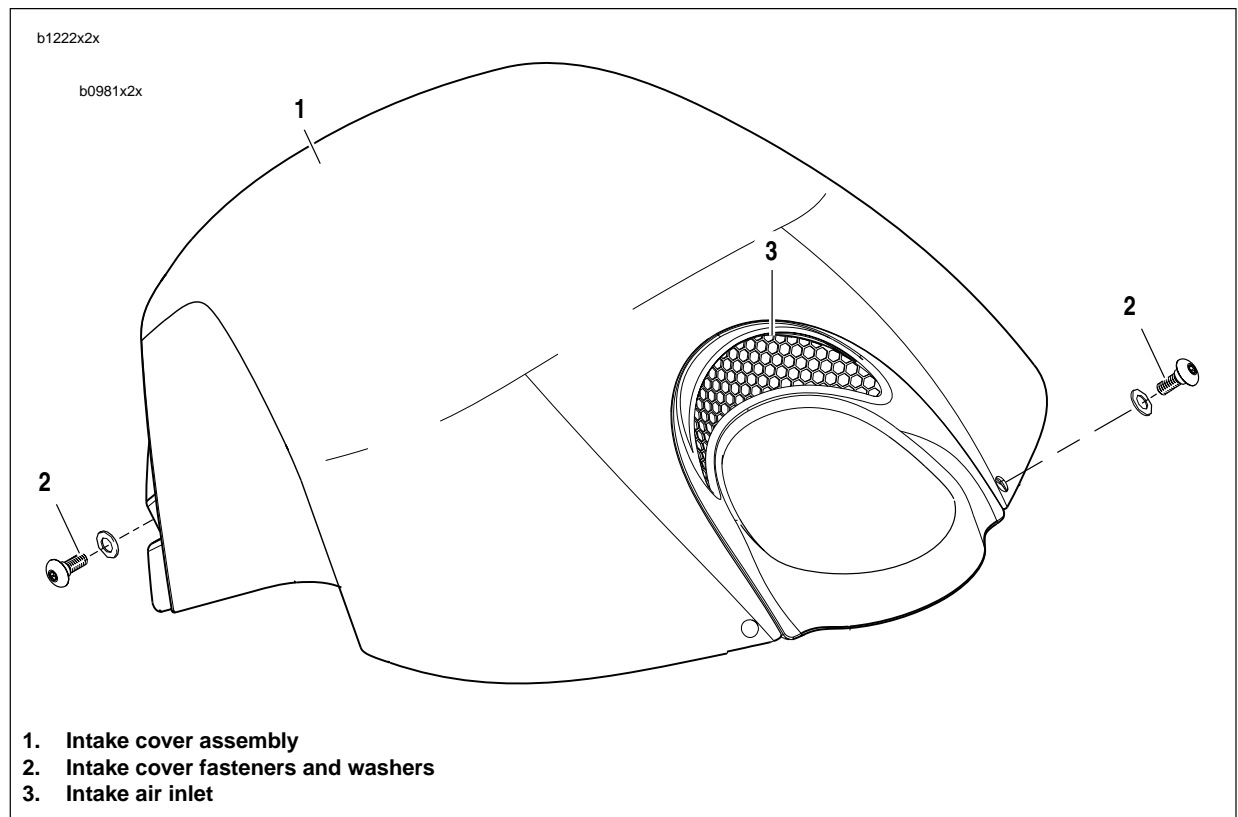

Figure 2-117. Intake Cover Assembly
2. See Figure 2-117. Remove fasteners and nylon washers (2).
3. Remove intake cover assembly (1).
2. See Figure 2-117. Start the front two fasteners (2) with nylon washers.
3. See Figure 2-117. Secure intake cover assembly (1) with fasteners and nylon washers (2). Tighten to 12-36 in-lbs (1.3-4 Nm).